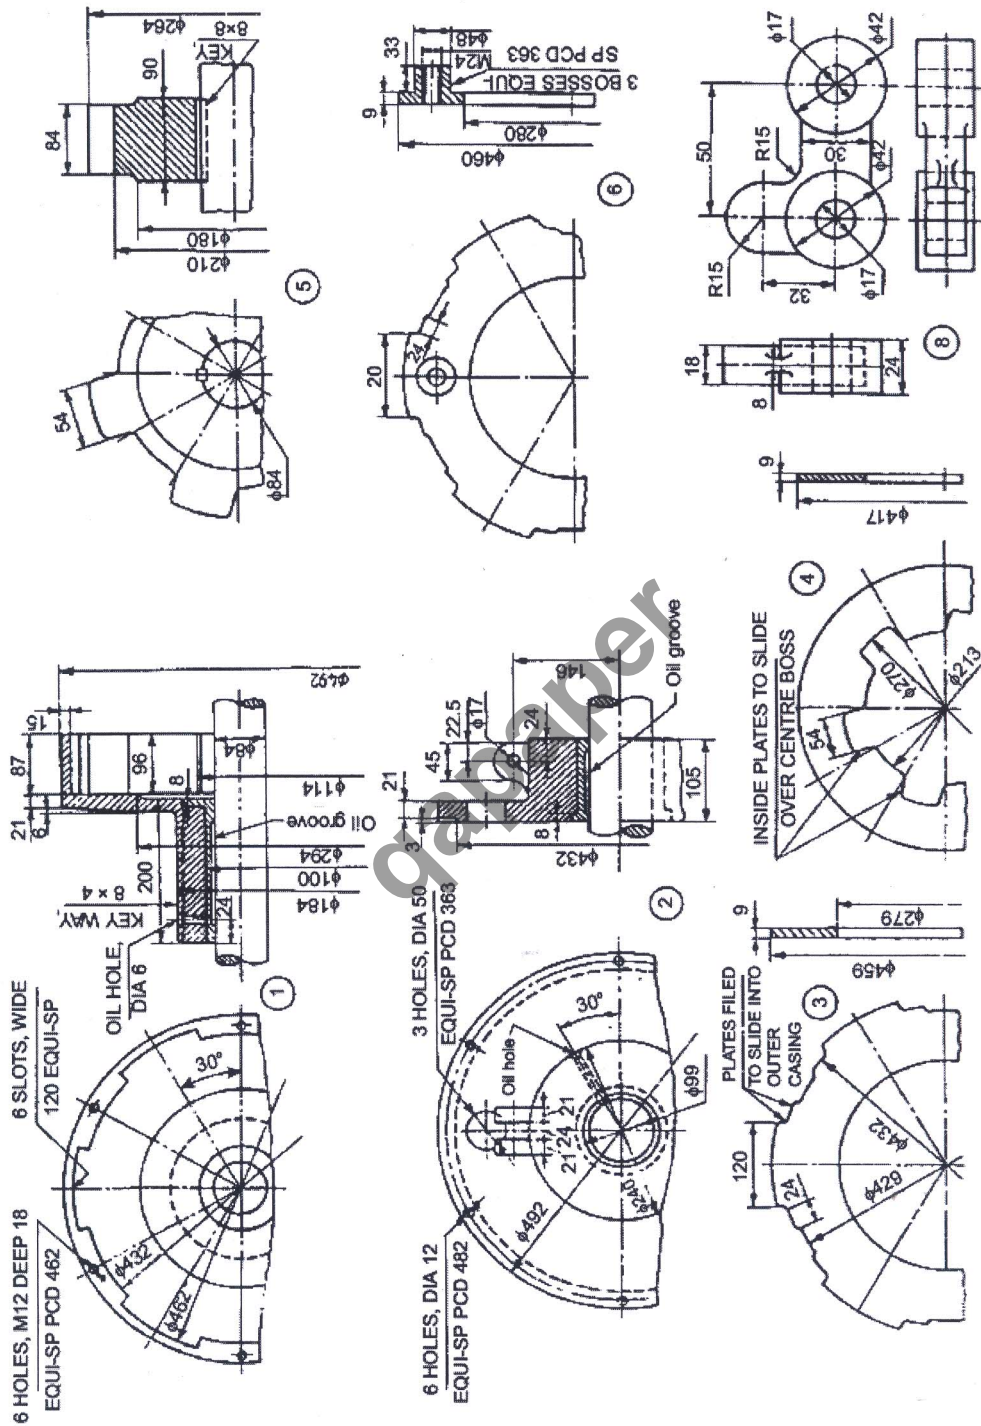

Fig. 1 Details of multiplate friction clutch (condt)
- 5) Figure 1. Shows the details of a Multiplate friction clutch. Assemble the parts and draw the following views. Dimension the drawings.